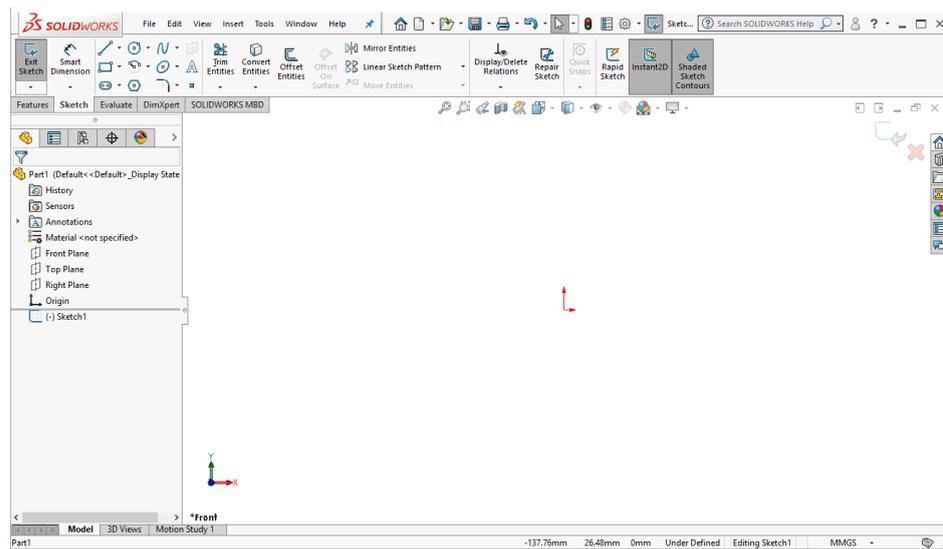

Figure 2-60 Screen display in the sketching environment
- Select the **Front Plane** from the drawing area; the sketching environment is invoked and the plane gets oriented normal to the view. You will notice that red colored arrows are displayed at the center of the screen indicating that you are in the sketching environment. Also, the confirmation corner with the **Exit Sketch** and **Cancel** options is displayed on the upper right corner in the graphics area. The screen display in the sketching environment of SOLIDWORKS 2019 is shown in Figure 2-60.